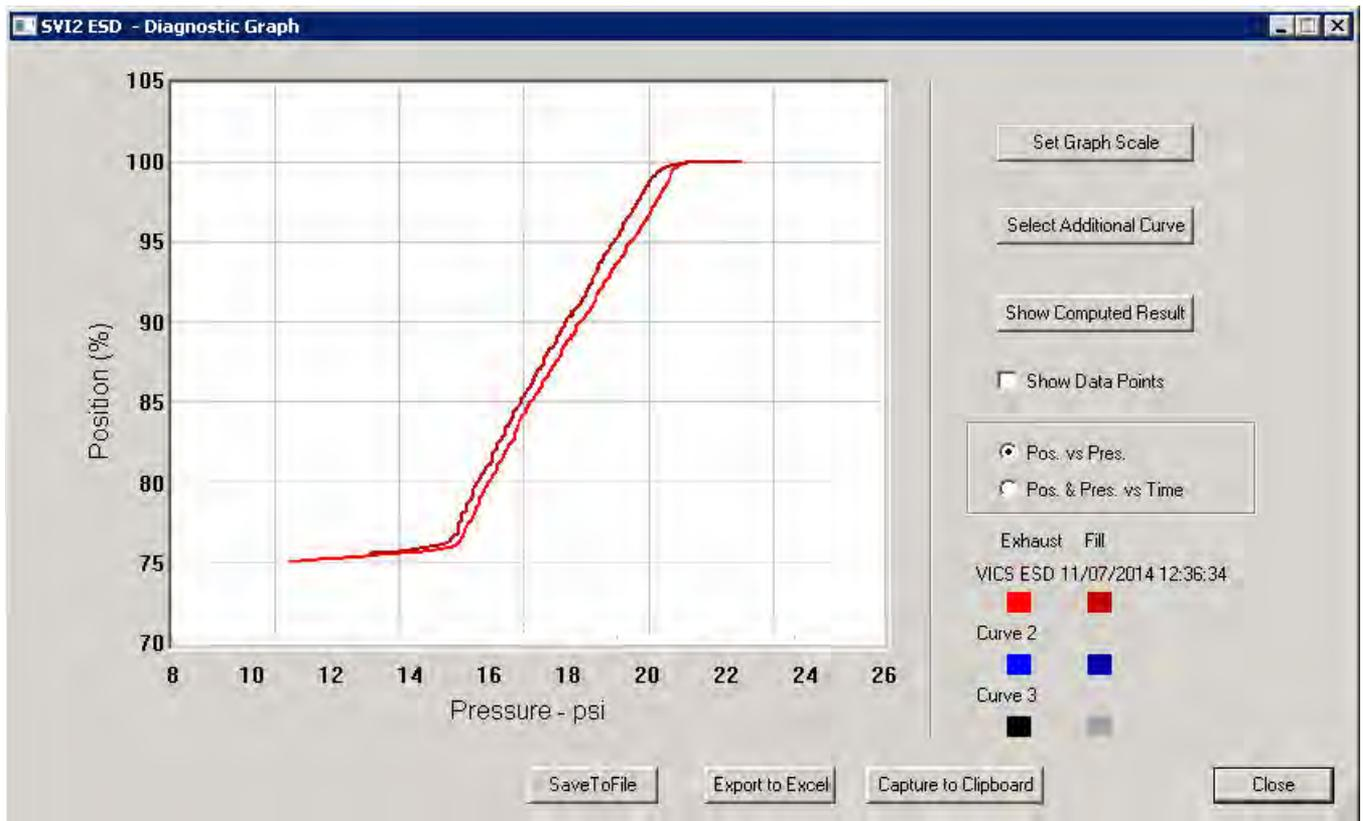

Figure 263 PST Diagnostic Graph
After you complete the PST and select **View Graph** the results appear on the *Diagnostic Graph* (Figure 263). The *Diagnostic Graph* has several features that provide even further diagnostic capabilities:
- Pos. vs Pres. - Position vs Pressure*, the default view when the diagnostic graph is launched and is represented by the red curve (Figure 263 on page 256).